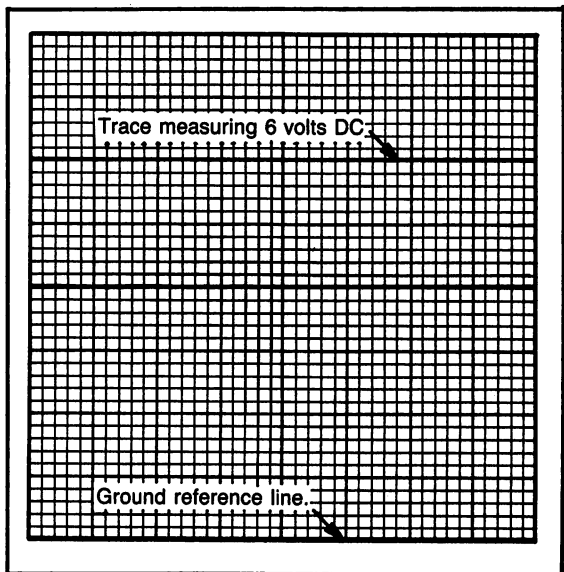

Fig. 8-3. Oscilloscope display measuring 6 volts DC. Scope setting: 1 volt/div.
Step 6. Move the AC/GND/DC switch to DC. The trace should jump up 6 divisions (1 volt per division). See Fig. 8-3. If the voltage of the battery is not exactly 6 volts, the trace will not fall exactly on the major division line. At the center of the oscilloscope screen, the divisions are divided with small lines to enable a more accurate reading. Use these minor divisions to read the screen as accurately as a voltmeter. The reading obtained in this step should be equal to the voltmeter connected.